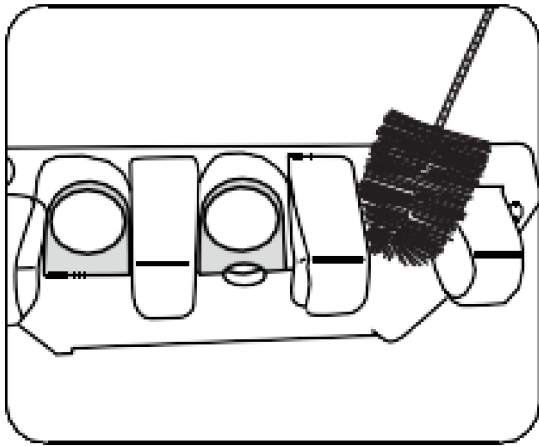

Figure 5-42
2. After removing the draw valves from the freezer door, clean the openings with a brush and dry with a soft towel. (Figure 5-42.)